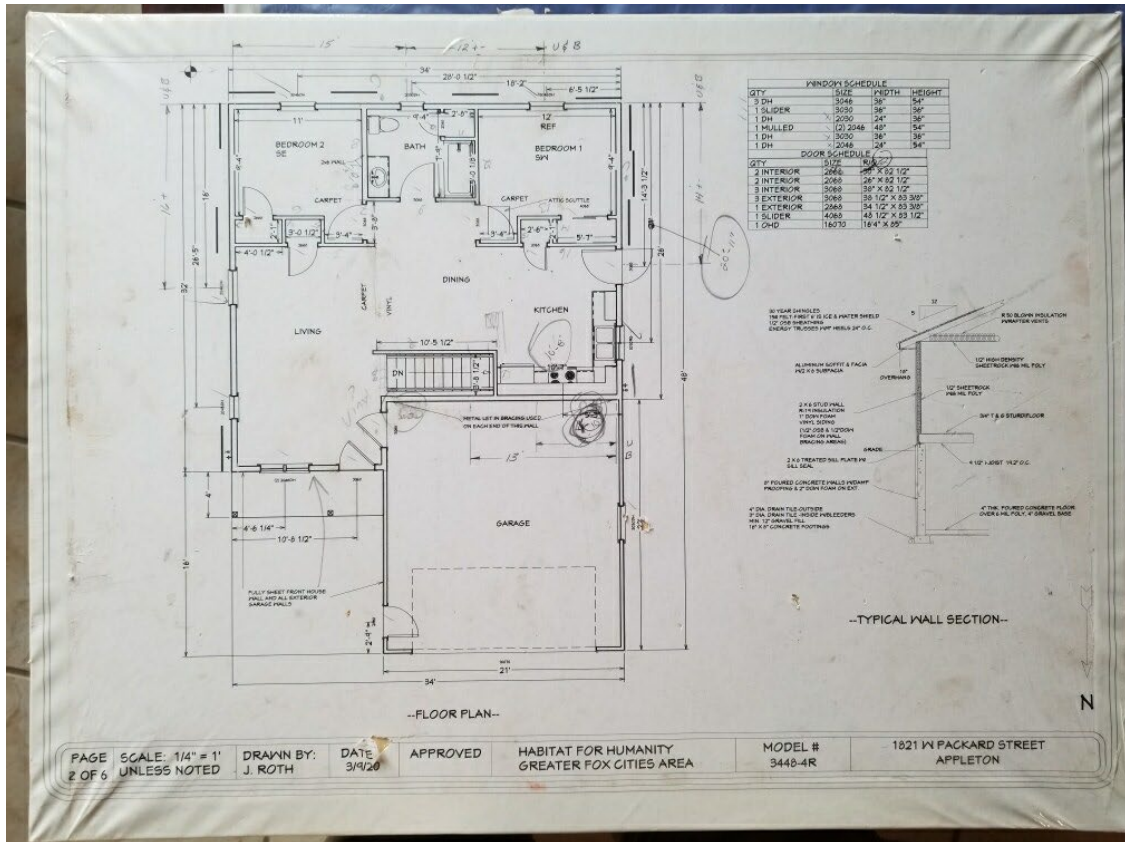

Figure 3-3. Plate Layout Drawing.
1. The Plate Layout Drawing, a 24"x36" printed layout (typically mounted on 1/8" plywood) of the main floor deck showing both exterior and interior walls, depicts all full-length plates and any pre-defined plate lengths (see Figure 3-3). The Drawing is usually created offsite prior to the build day and stored in the construction trailer. If the drawing is not found onsite, create one using the following steps.